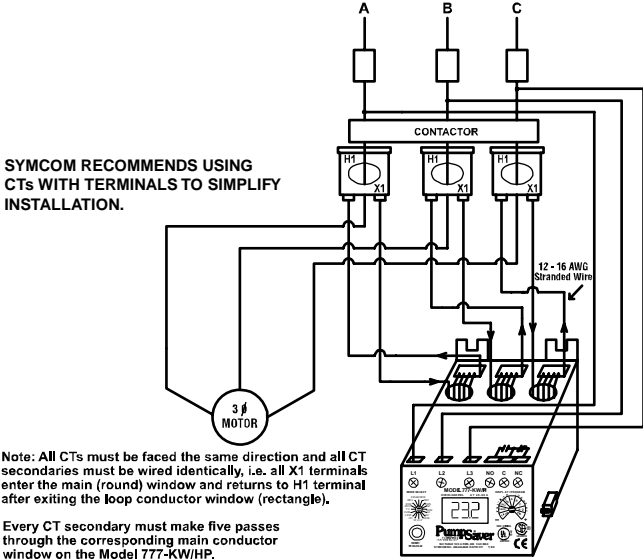

Figure 3: Typical Wiring Diagram Using External CTs
C) For amperage greater than 90 amps, external CTs (current transformers) are required. Using CTs with terminals is recommended for ease of installation. All CT secondaries must make five passes through the round holes on the 777-P. See Figure 3 for a typical wiring diagram using CTs.